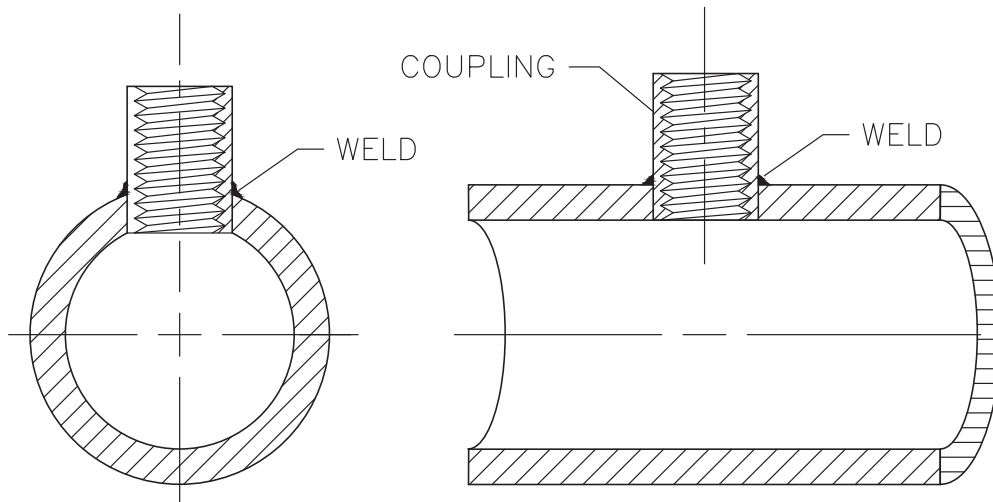

FIGURE 3.38 Inserting a coupling into a pipe header.
2. A hole is bored into the pipe header large enough to accept the OD of the coupling. The coupling is inserted into the hole and is then welded (see Figure 3.38). Figure 3.39 shows the drawing